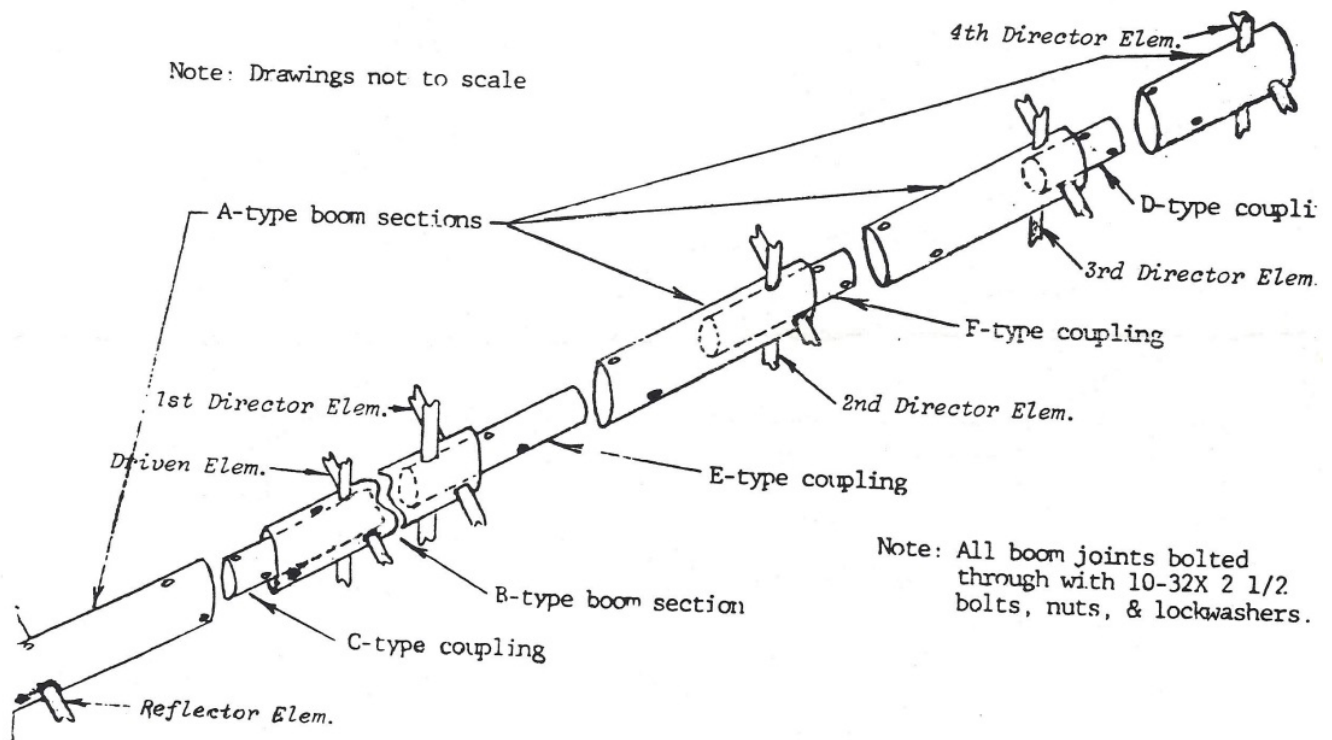

figure 9
- Install the "C" type coupling in the other end of the "B" type boom section. Insert 2 of the 1/2" diam. Rod support brackets through both the boom and coupling sections. (Refer to figure 9)
9. Insert 4 fiberglass rods into each of the remaining boom sections. Attach one of the director wires identified by yellow shrink tubing to each set of rods; and tension as before. All of the wires with yellow shrink tubing are the same length. At this p, elements are assembled and tensioned on the 5 bucm sections. You are sections now ready to join the boom sections together. Refer to Figure 9 for the proper sequence. Although the 2nd, 3rd, and 4th directors are the same length, the boom sections they are mounted on must be joined together as shown in Figure 9.